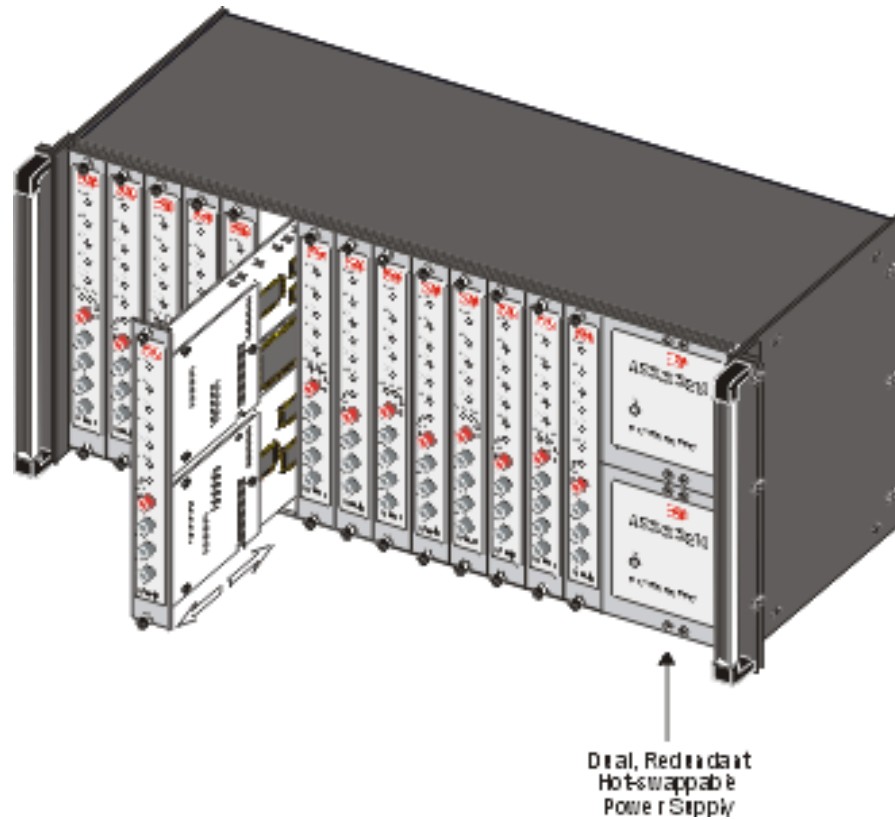

Figure 2. ASM-MN-214 Chassis
ASM-MN-214 is a 19-inch, 4U high, rack-mount chassis. A 3-D view of a typical unit is shown in Figure 2.
The ASM-MN-214 chassis can accept both AC or DC power supplies (PS). LED indicators located on the ASM-MN-214 front panel show activity when the power supply is connected to the mains plug (see Figure 2). The power supply supports the full chassis with any combination of cards.